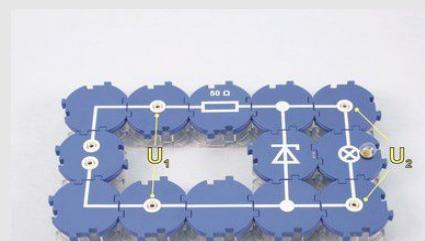
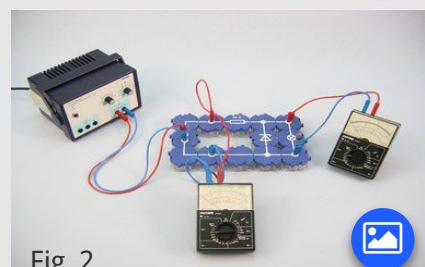

Fig. 1
Fig. 2
- Set up the experiment according to Fig. 1 and Fig. 2. Select the measuring range 10 V- for both measuring instruments. Make sure the polarity is correct.